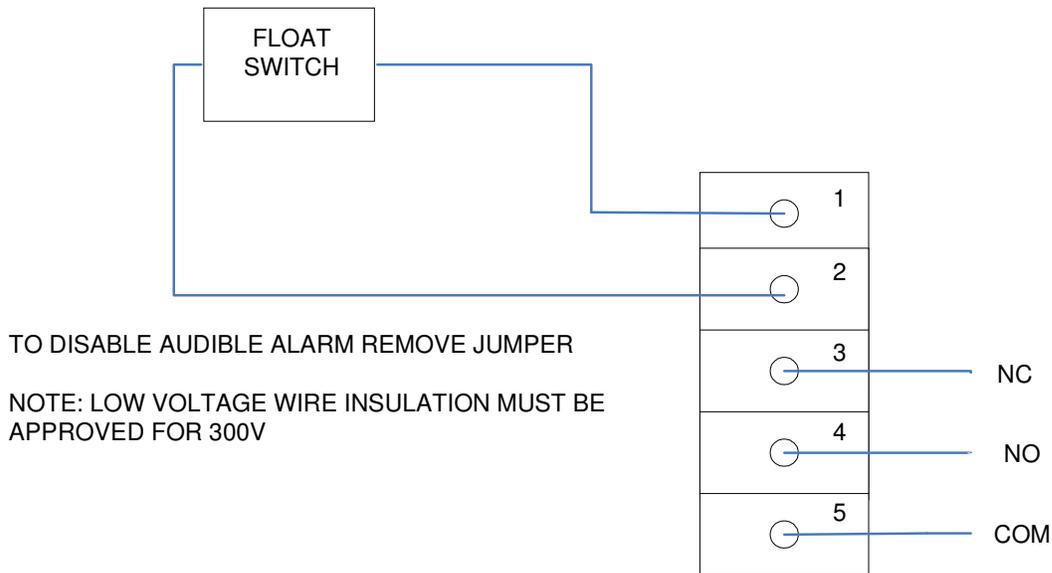

Figure 4: High level float connection from NT1-P to RIA10-1-SAA alarm panel
1. Extend the two white wires from the high level float switch and push the cable through the strain relief fitting on control panel and connect wires to terminals 1 and 2 on terminal strip. Tighten strain relief nut to secure cable into panel. See figure 4 below.